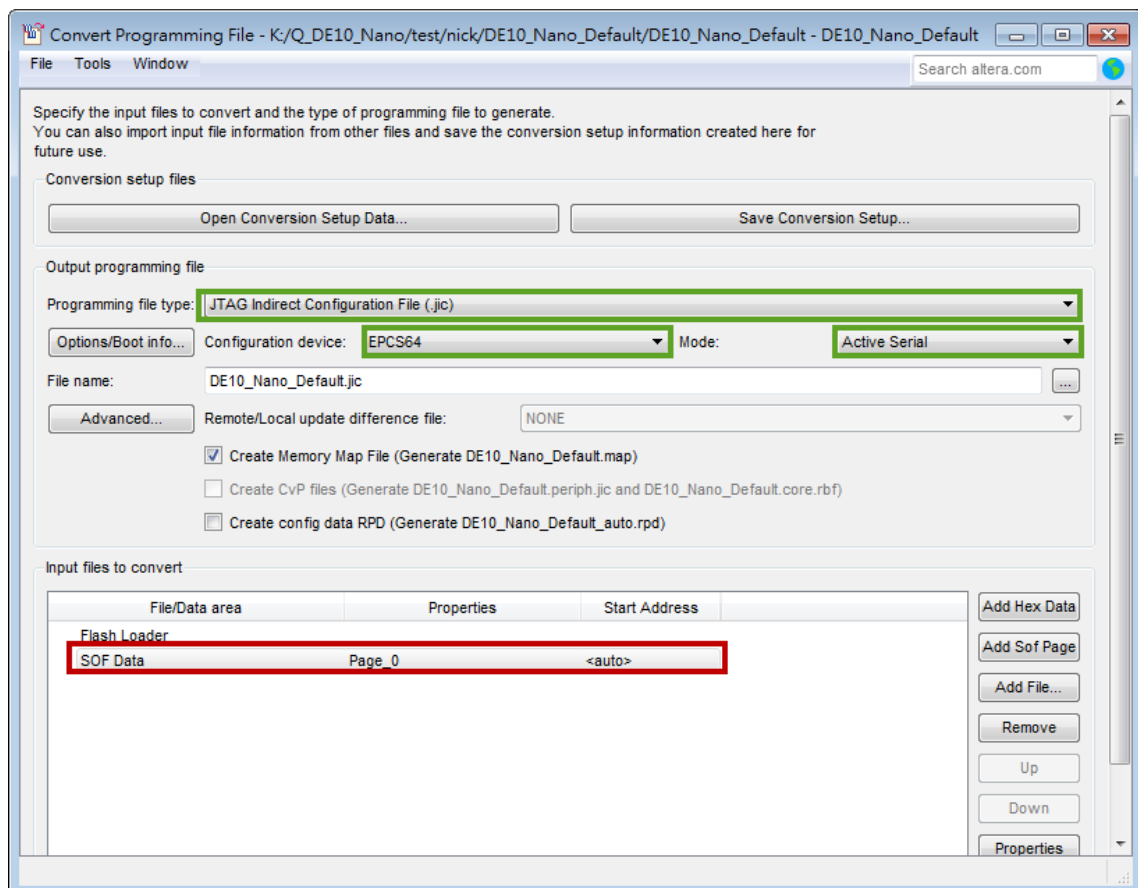

Figure 8-3 Dialog of “Convert Programming Files”
6. Click on the SOF data in the section of Input files to convert, as shown in **Figure 8-3**.